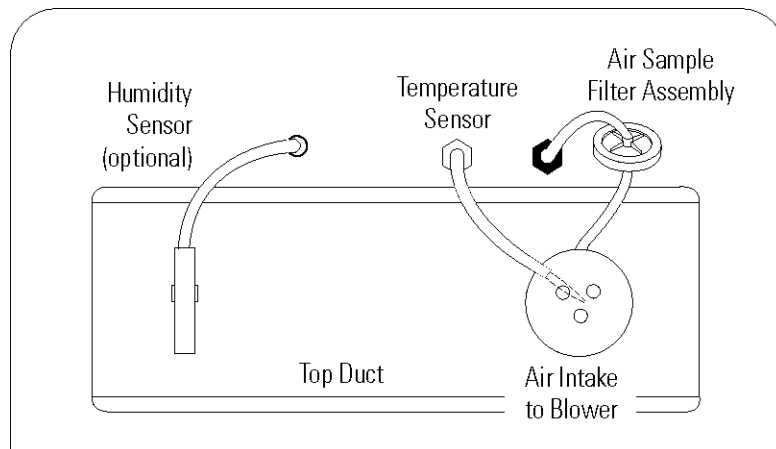

Figure 1-10. View of Chamber Ceiling
3. Insert the other end of the filter assembly into the larger hole in the air intake to the blower. Refer to Figure 1-10.
4. Verify that the temperature sensor is installed into the smaller hole in the intake, as in Figure 1-10.